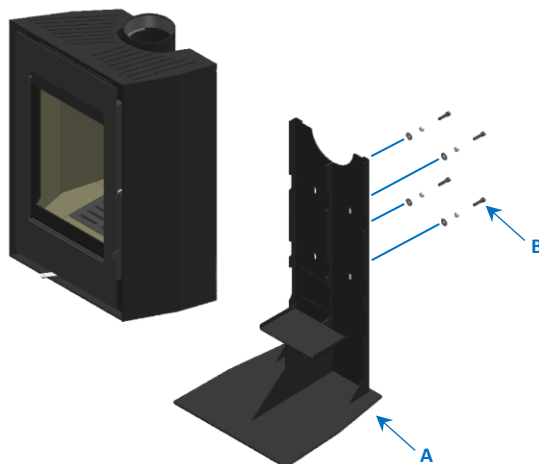
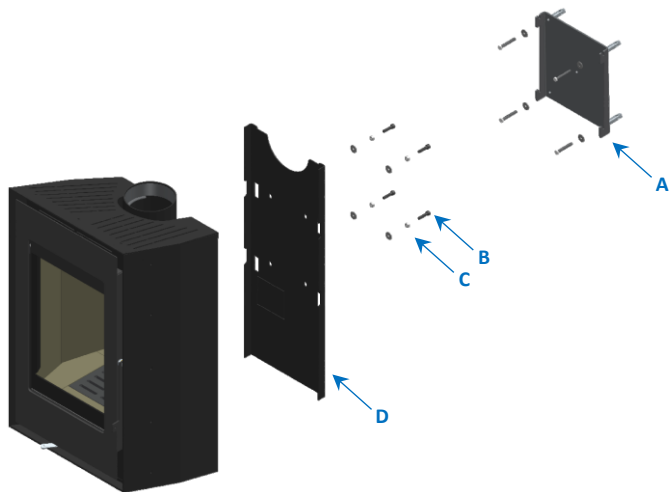

Figure 21 - Removing Tek Wall support
Figure 22 - Installing the wall support
2. Install the wall support (A), Figure 22, using the metal anchors supplied according to the height at which the stove is to be placed. Use the rear support (D) to check the correct position;
3. Next, replace the floor support, Figure 21 (A), with the rear support, Figure 22 (D), supplied in the purchased kit, using the same screws and washers from the previous operation;